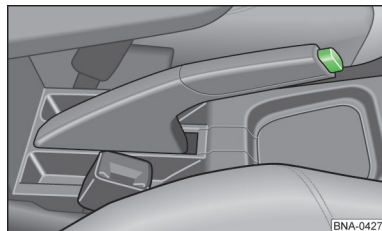

Fig. 62
- Pull the handbrake lever up slightly **and at the same time** push in the locking button » fig. 62.